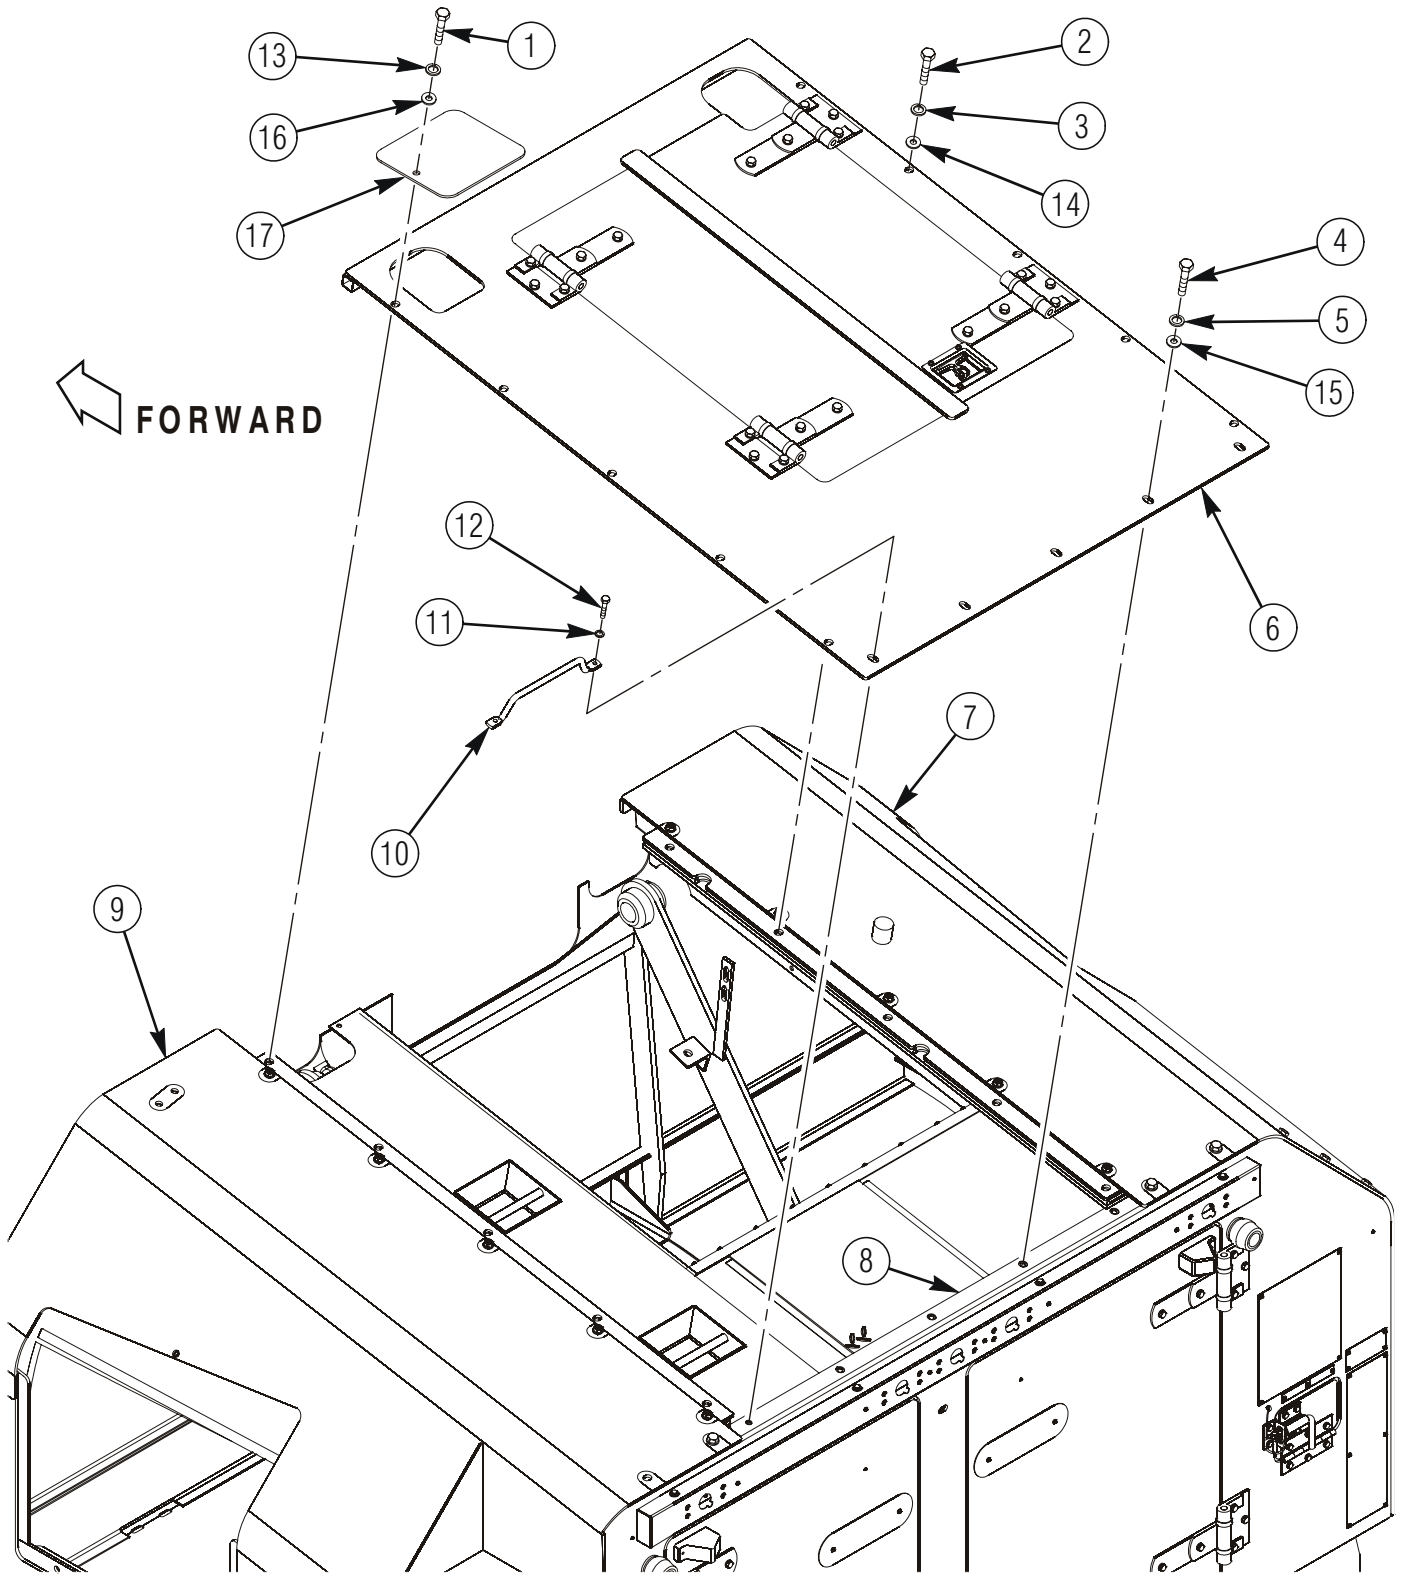

Figure 6.
1. Install 6433286-01M1 or 6433286-200M1 top panel assembly (6) and 6433300-02M1 or 6433300-200M1 shackle opening cover (17), and secure to left upper side panel assembly (9) with five 4397000-381 capscrews (1), 4397004-009 lockwashers (13), and 4397005-016 washers (16) as shown in figure 6. Do not tighten capscrews (1) at this time.
2. Secure top panel assembly (6) to right upper side panel assembly (7) with five 4397000-381 capscrews (2), 4397004-009 lockwashers (3), and 4397005-016 washers (14) as shown in figure 6. Do not tighten capscrews (2) at this time.
3. Secure top panel assembly (6) to rear panel assembly (8) with four 4397000-381 capscrews (4), 4397004-009 lockwashers (5), and 4397005-016 washers (15) as shown in figure 6. Do not tighten capscrews (4) at this time.
4. Install 6433120-01M1 grab/pull handle (10) and secure with two 4397000-036 capscrews (12) and 4397004-007 lockwashers (11) as shown in figure 6. Do not tighten capscrews (12) at this time.
1. Tighten two capscrews (12) securing grab/pull handle (10) to 21 lb-ft. Refer to figure 6.
2. Tighten four capscrews (4) securing top panel assembly (6) to rear panel assembly (8) to 60 lb-ft. Refer to figure 6.
3. Tighten five capscrews (2) securing top panel assembly (6) to right upper side panel assembly (7) to 60 lb-ft. Refer to figure 6.
4. Tighten five capscrews (1) securing top panel assembly (6) to left upper side panel assembly (9) to 60 lb-ft. Refer to figure 6.